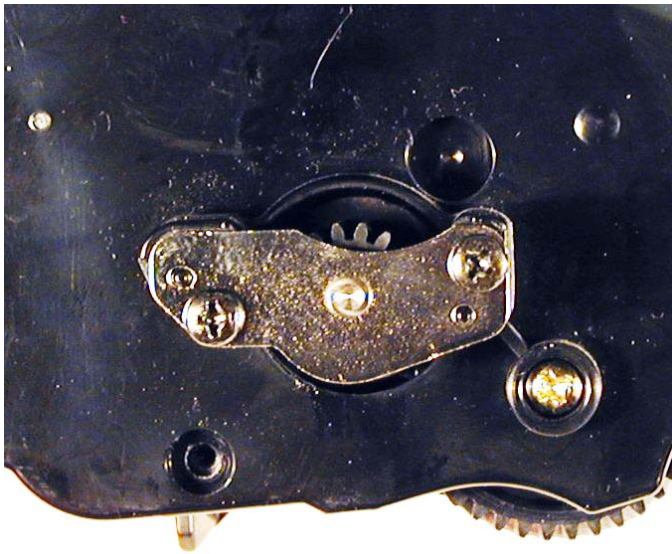

Figure 8
7) Remove the 2 screws on the metal plate. Remove the plate and gear. See **Figures 8 & 9**